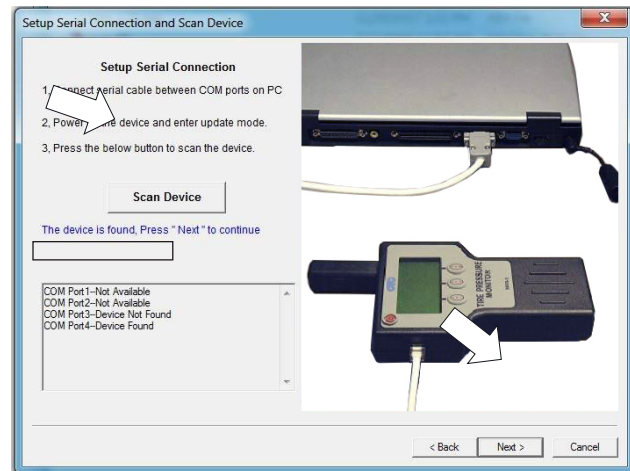

Figure 5 – Set-up Serial Connection and Scan Device Screen
- The Set-up Serial Connection and Scan Device screen (shown in Figure 5) appears next. Select the “Scan Device” button. Once the device is found, select the “Next” button.